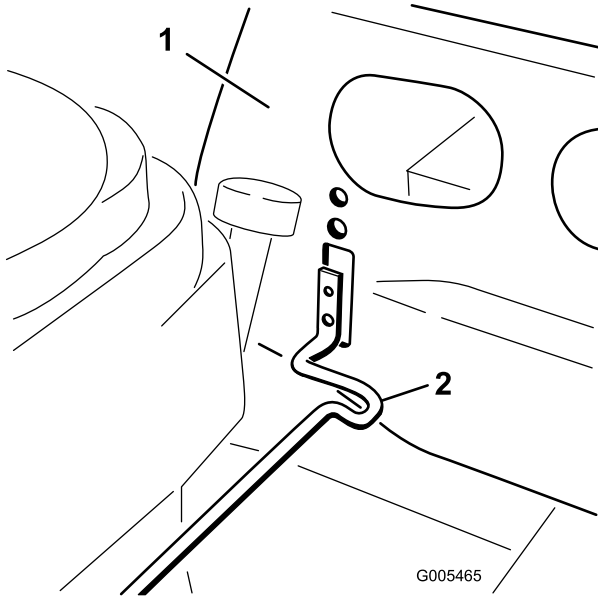

Figure 3
- Pivot the rod down to allow the opposite end to find the slotted opening in the interior side of the left hand pod (Figure 3).